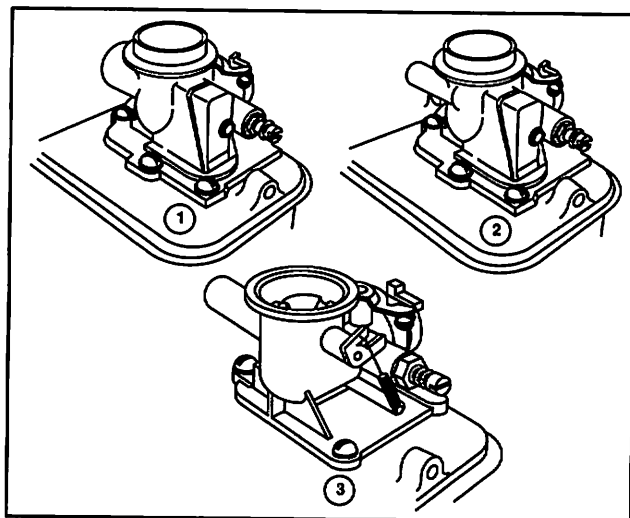

Fig. 10
Carburetor Types (Fig. 10)
There are three basic types of Pulsa-Jet and Vacu-Jet carburetors used on above series engines. They are (1) All-Temperature/Automatic Choke, (2) Automatic Choke, and (3) Choke-A-Matic®, Fig. 10.